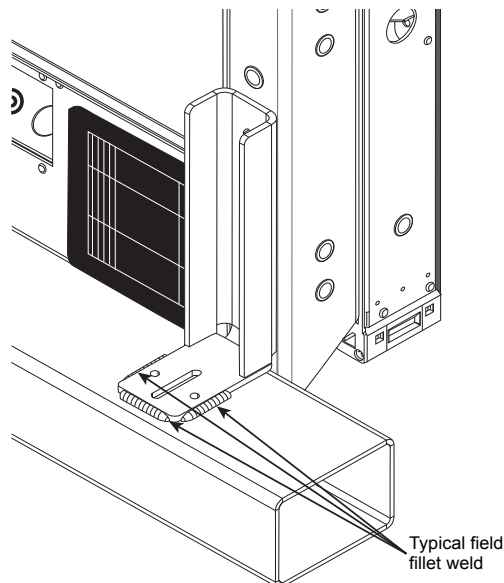
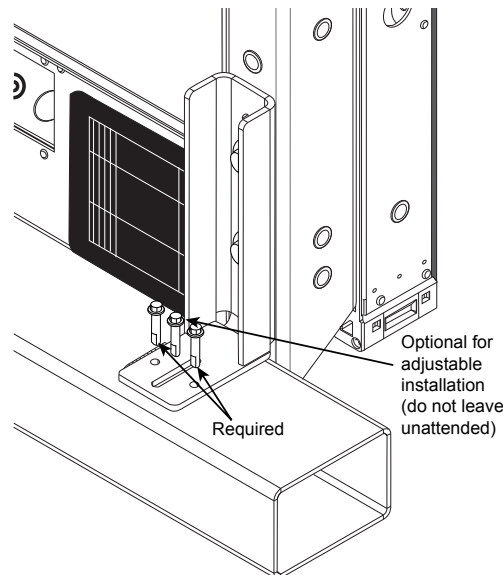

Figure 7: Welded Attachment
Figure 8: Weldless Attachment
8. Attach the clips to the structure by either welding or installing the self-drilling screws (located in the green weldless hardware bag). Refer to **Figure 7 on page 2** and **Figure 8 on page 2** for details and to the Shop Drawing for requirements on welding and bolting.